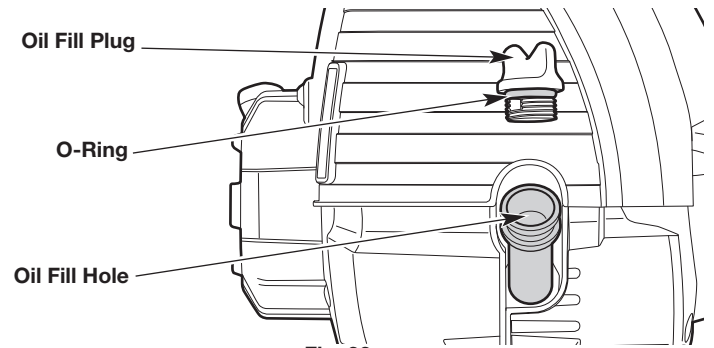

Fig. 33
3. Clean the area around the oil fill plug to prevent debris from entering the oil fill hole (Fig. 33).
7. Make sure the O-ring is in place on the oil fill plug (Fig. 33).
1. Clean the area around the oil fill plug to prevent debris from entering the oil fill hole (Fig. 33).